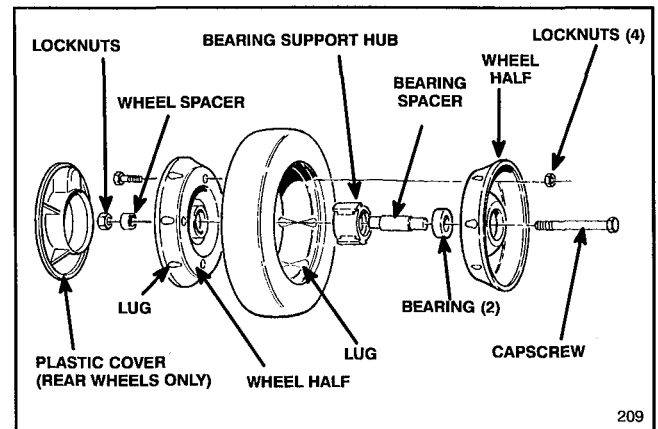

Figure 31
SERVICING WHEELS (Fig. 31)
1. Remove capscrew, wheel spacer, and locknut mounting wheel to pivot arm (Fig. 31).
2. Separate wheel halves from tire by removing (4) capscrews and locknuts (Fig. 31).
1. Position tire onto (1) wheel half, aligning lugs on each (Fig. 31).
4. Using (2) 1/4–20 x 1.50" lg. fully threaded screws or bolts and non-locking nuts, loosely secure wheel halves together. Mount screws or bolts in opposing holes.